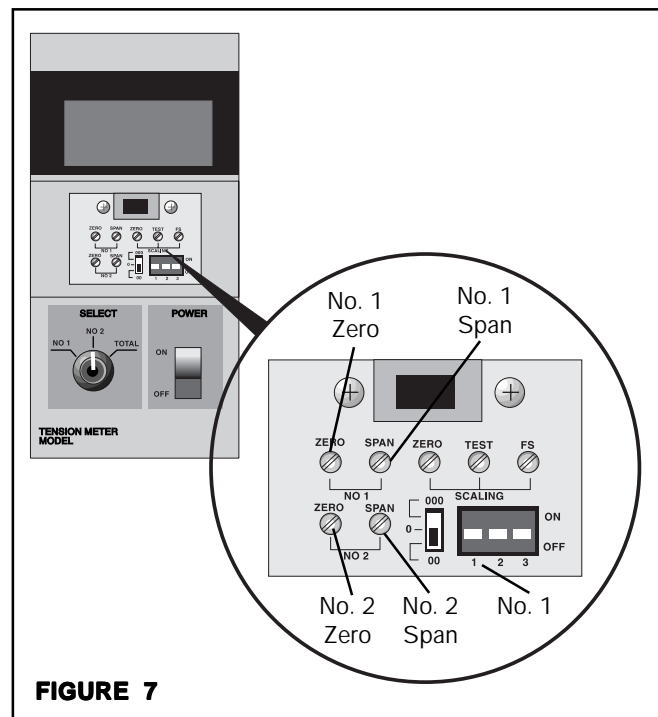

FIGURE 7
3. Set **No. 1 Dip Switch** to **ON**. This sets the TM210 for **ZERO** and **SPAN** Setting (See Fig. 7).
5. Rotate **No. 1 ZERO** variable resistor to obtain **0** on the indicator (See Fig. 7).
7. Rotate **No. 2 ZERO** variable resistor to obtain **0** on the indicator (See Fig. 7).
11. Rotate **No. 1 Span** variable resistor until the Indicator reads one half the weight or $W/2$ (See Fig. 7).
13. Rotate **No. 2 Span** variable resistor until the Indicator reads one half the weight or $W/2$ again (See Fig. 7).
16. Set the **No. 1 Dip Switch** to **OFF**. This sets the TM210 to the Normal Operating Mode (See Fig. 7).